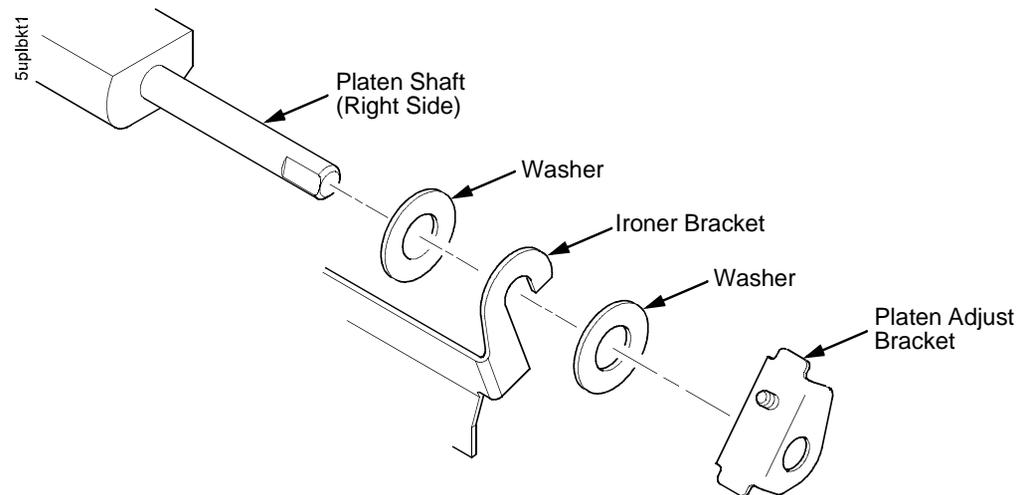

Figure 28. Installing the Platen Adjust Bracket
2. Install two washers on the longer (right) platen shaft. (See Figure 28.)
8. Insert the shorter platen shaft through the left adjust bracket and through the opening in the left side plate. Rotate the longer shaft into the opening in the right side plate and position the adjustment brackets as shown in Figure 28.
14. Install the paper ironer bracket. (See Figure 28, page 417):
For the right side of the platen, a washer goes on both sides of the paper ironer hook and the hook goes to the left of the right platen adjustment bracket. (See Figure 28, page 417.)